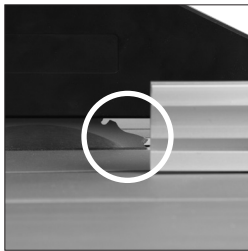

Fig. 39
- Adjust and align the back of the rip fence faceplate with the front of the saw blade. **(Fig. 39)** This setting will afford clearance for the material as it passes through the saw blade. It will allow the cut material to move sideways away from the saw blade, with little risk of any binding or kickback occurring.